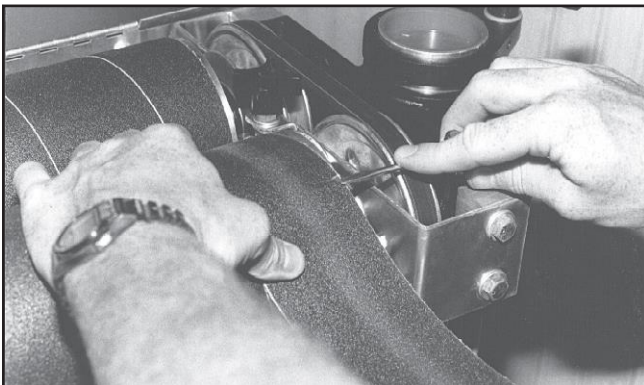

Fig. 16F Mark strip where it crosses drum edge.
3. Mark the trailing end of the strip where it crosses the right (inboard) end of the drum (Fig. 16F). From this point, cut a taper as was done with the starting edge of the strip. (The taper on the remaining roll can be used as the taper for the starting edge of the next strip to be cut.)